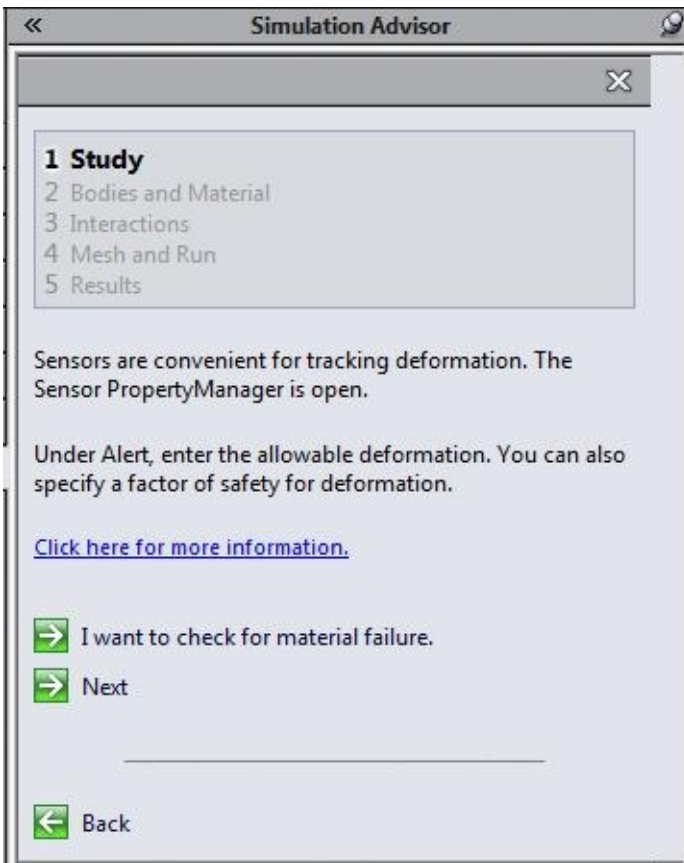

Figure-36. Simulation Advisor with page related to material failure
3. Click **OK** button from the **PropertyManager**. Page related to material failure will be displayed in the **Simulation Advisor**; refer to Figure-36.